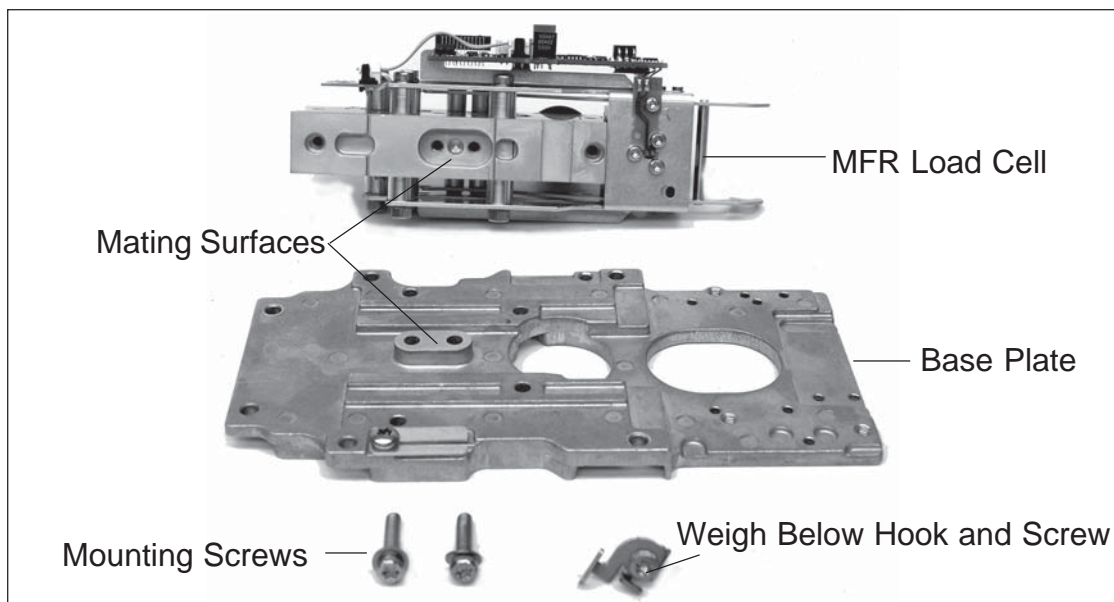

Figure 3-37. Load Cell Mounting Components.
2. Hold the MFR Load Cell and remove the 2 Load Cell Mounting Screws. Figure 3-37 illustrates the components.
1. Make sure the mating surfaces on the Base plate and the Load Cell as shown in Figure 3-37 are clean.